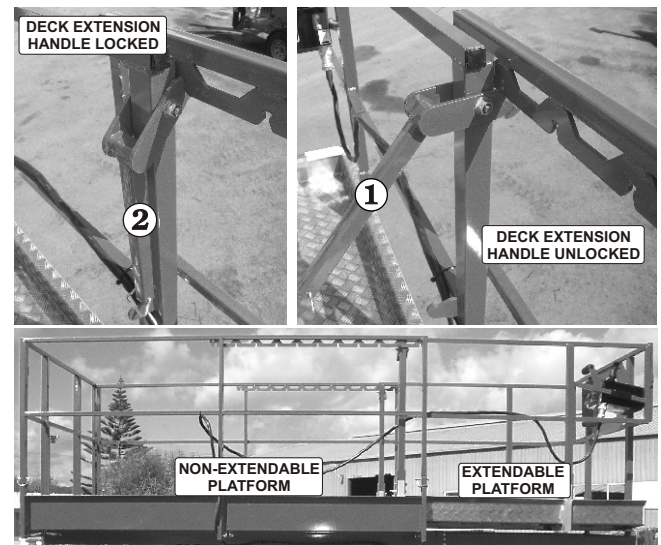

Figure 8.26
The MULTI-position extendable platform (see Figure 8.26) can be securely locked into different positions. To move it from one position to the other do the following:
2. Lift up the deck extension handles (one for each side of the deck) ❶ to unlock the deck (see Figure 8.26).
4. Lower the deck extension handles and allow the lock ❷ to locate (see Figure 8.26).